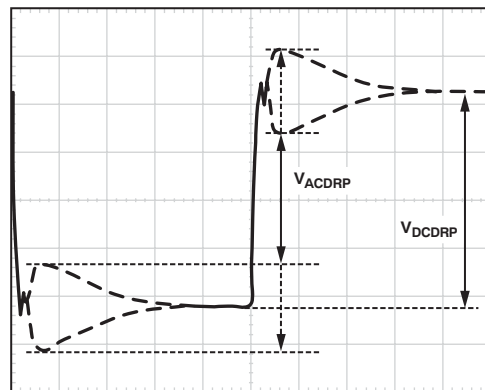

Figure 38. AC Load Line Waveform
5. The resulting waveform will be similar to that shown in Figure 38. Use the horizontal cursors to measure  $V_{ACDRP}$  and  $V_{DCDRP}$ , as shown in Figure 38. Do not measure the under-shoot or overshoot that occurs immediately after the step.